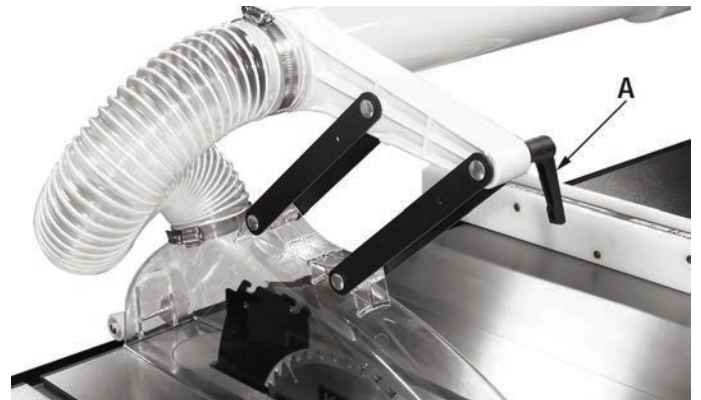

FIGURE 11
Note: The blade cover can be locked in any position by tightening the blade cover lock knob (A) Fig.11. It is recommended to keep this lock knob loose as to not restrict the height of the blade cover as you feed stock towards the blade.